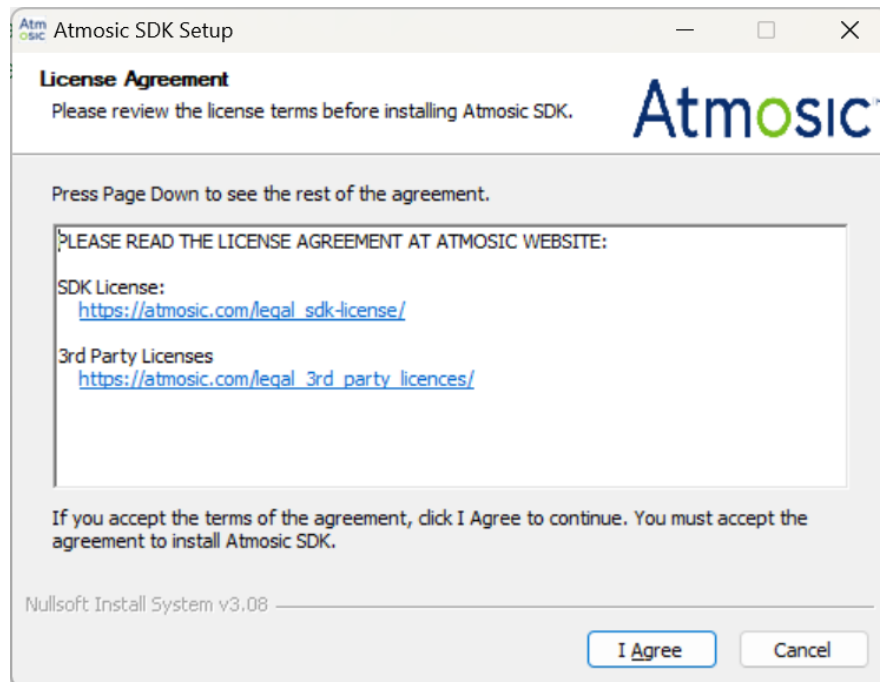

Figure 2 - Atmosic License Agreement
- Figure 2 - Atmosic License Agreement